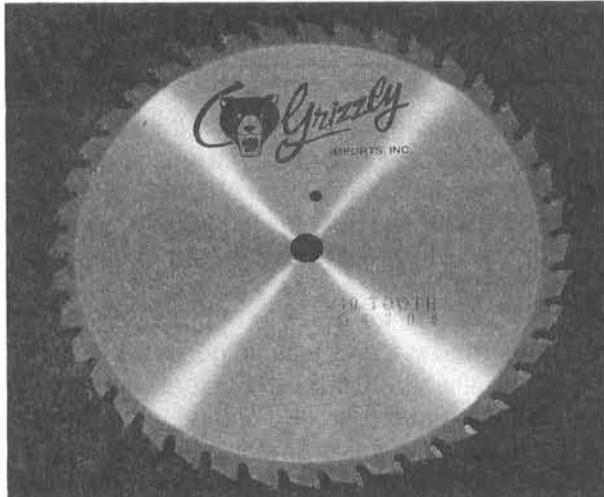

Figure 44.
2. **Cross-cut Blade:** Used for cutting across the grain. Cross-cut blades have between 40-100 teeth, alternate top bevel or steep alternate top bevel tooth profiles, small hook angle and a shallow gullet. **Figure 44.**